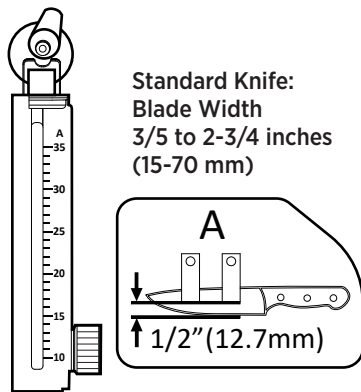

Fig. 6
1. Standard Knife: Blades with a width of $\frac{3}{5}$ to $2\frac{3}{4}$ inches (15-70 mm) refer to the **A** mounting position as indicated on the base label. The sharpening angle range is 10° - 35° (See Fig. 6).